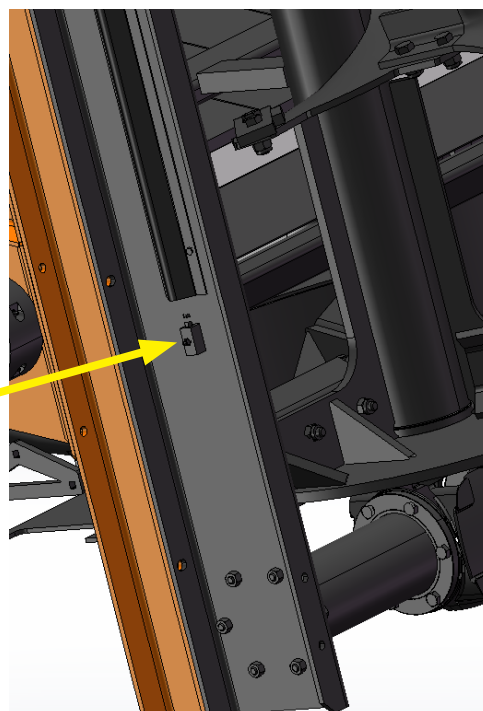

Figure 15: Detaching the spreader
- Lubricate Beater Top Bearings (figure 15).
1. Lubricate grease remote line points (figure 15) on both walking beams (4 zerks) with Moly High Temperature/Extreme Pressure Grease NLGI #2.